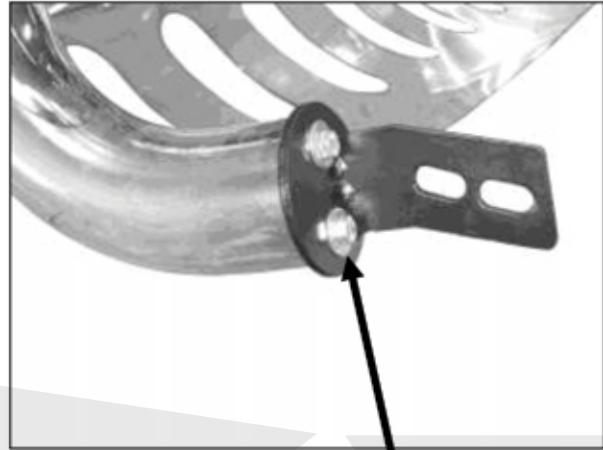

Figure 2
**3)** Loosely attach Bull Bar Brackets to Bull Bar using the included (4) 8mm x 25mm Hex Head Bolts, (4) 8mm Lock Washers, and (4) 8mm Flat Washers (Figure 2). Do not tighten at this time.